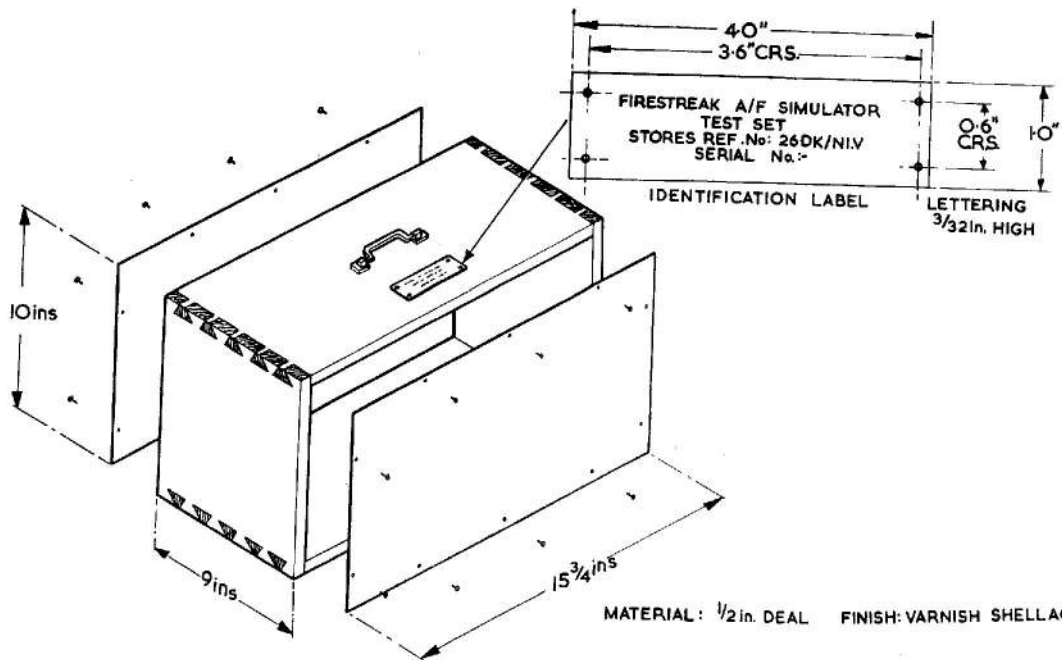

Fig. 1. Test set case—general dimensions
5. In making the case, refer to Fig. 1 for details of dimensions and assembly, and Table 1 for components and materials. The following is the recommended procedure:—